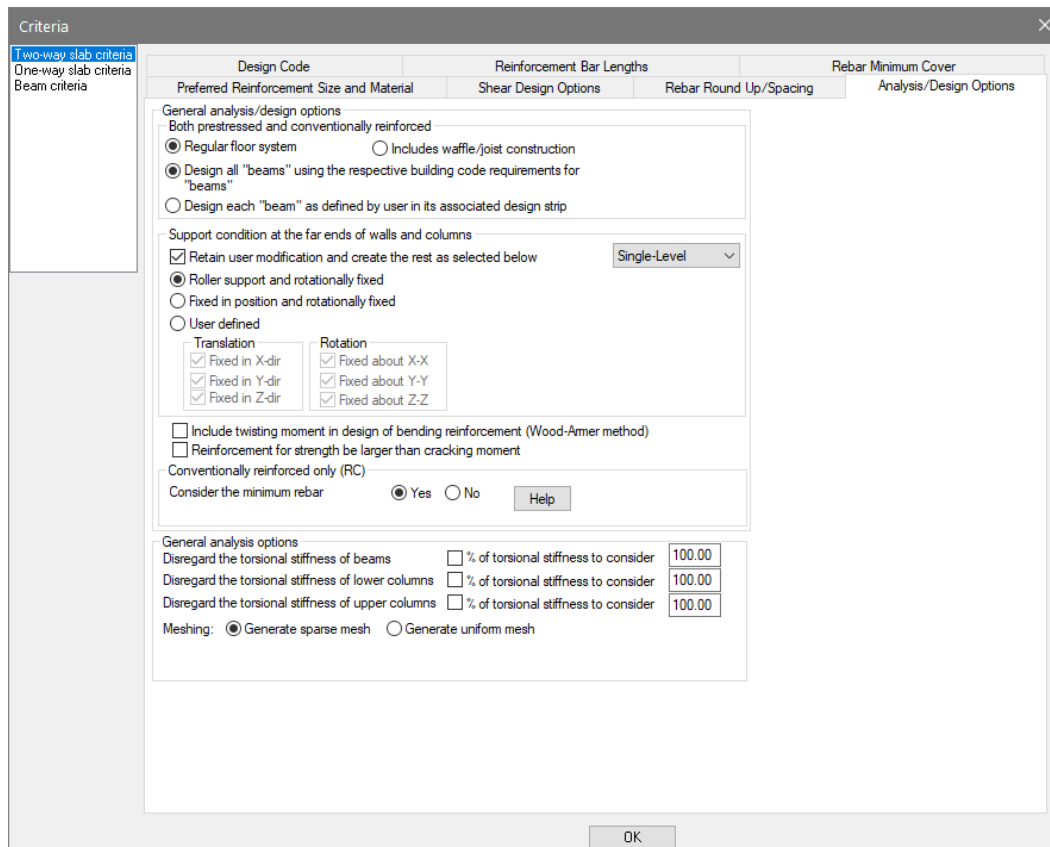

Figure 2-15
- Click on the *Analysis/Design Options* tab. This will open the window from **FIGURE 2-15**.